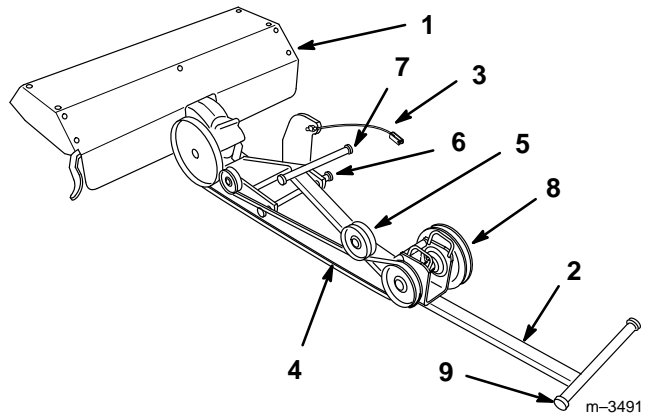

Figure 10
3. Place the jack shaft assembly between the tractor wheels and oriented with the tiller as shown (Fig. 10).
7. Install the tiller belt (short belt) between the tiller and jack shaft assembly (Fig. 10). Route the belt under the idler pulleys and over the jack shaft pulley.
14. Route the PTO drive belt around the jack shaft's PTO pulley (Fig. 10), then through the center of the pulley box between the two pulleys.